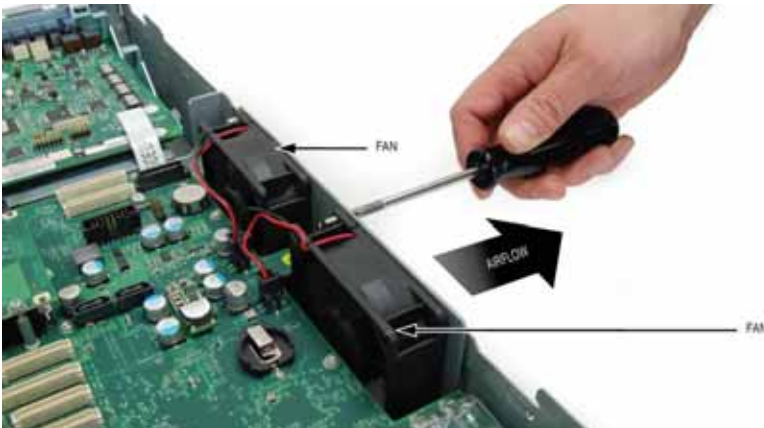
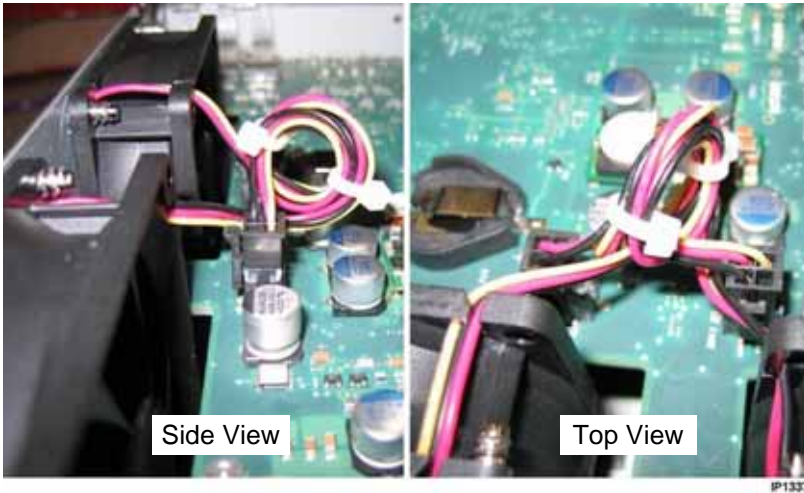

Figure 76: Fan Removal
Figure 77: Fan Cable Management (New Fan Assembly)
2. Remove the two screws that fasten the fan to the cabinet frame (see Figure 76).
Note: The fan depicted in Figure 76 is the early version. The new version uses longer cables that must be tied off as shown in Figure 77.
5. If you have a new fan assembly with longer cables, loop and tie them together using the supplied cable ties as shown in Figure 77.
2. Using diagonal cutters, clip the tie-wrap around the fan and ethernet cables; see (1) in Figure 76. Take care to avoid cutting the cables.
3. Disconnect the two fan power cables from the main board; see (2) in Figure 76.
4. Remove the four screws that fasten the fan assembly to the cabinet frame; see (3) in Figure 76.